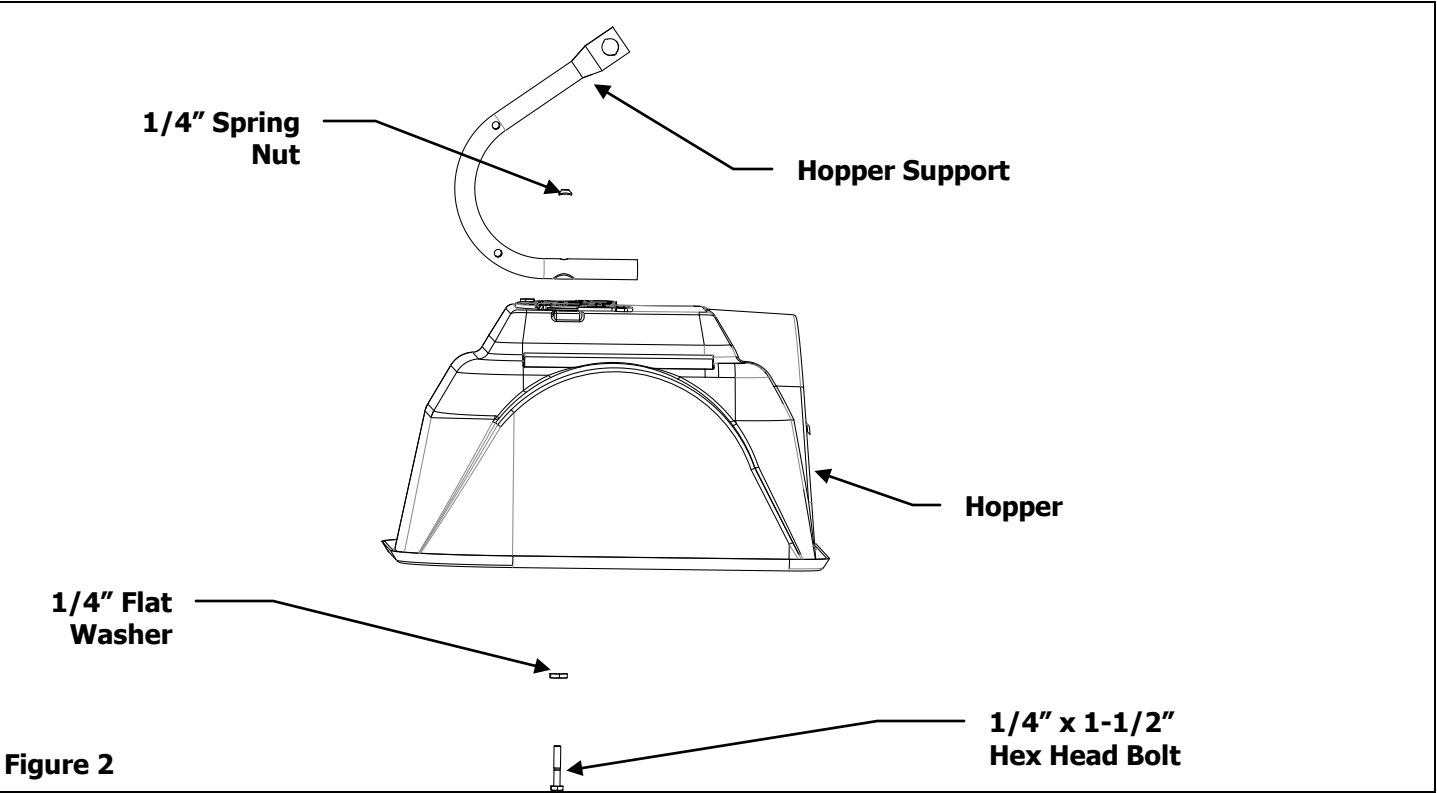

Figure 2
2. Attach one Hopper Support to the bottom of the Hopper using a 1/4" x 1-1/2" Hex Head Bolts, one 1/4" Flat Washer and one 1/4" Spring Nuts. Insert the bolt through the 1/4" Flat Washer, the hole in the bottom of the Hopper, through the hole in the Hopper Support and secure with a 1/4" Spring Nut. See Figure 2.